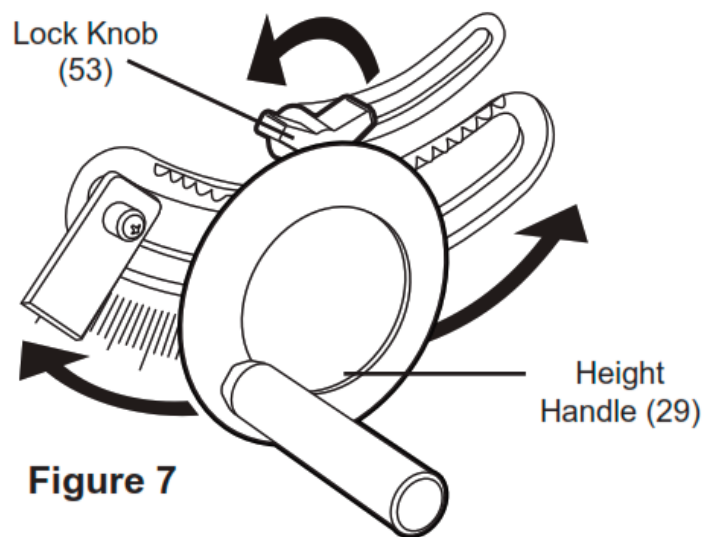

Figure 7
3. Pull out and turn the Height Handle (29) counterclockwise to raise the motor to its uppermost position.
4. Turn the Lock Knob (53) counterclockwise to loosen the tilt lock. Push the Height Handle in to engage the gears and rotate it counterclockwise to tilt the Spindle to 15 degrees. See Figure 7.